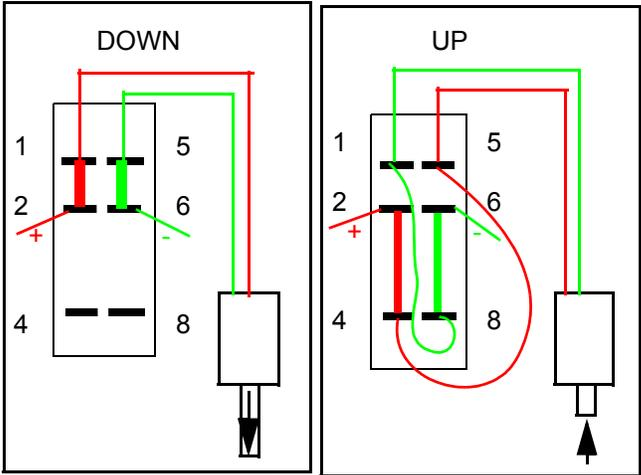

Figure 33.3
33.3. Rocking the switch in the opposite direction closes contacts joining 2 to 4 (R) and 6 to 8 (Y), connecting power to terminal 4 and ground to terminal 8. See Figure 33.3.